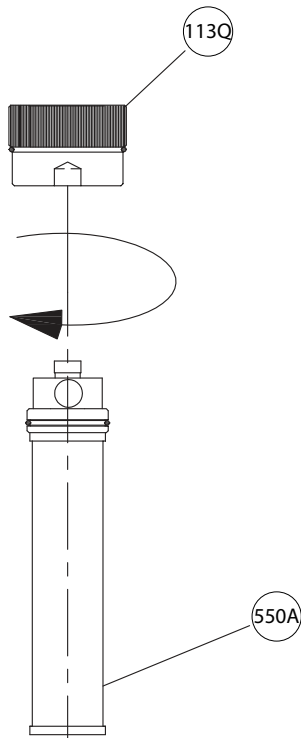

Figure 31: Filter removal
- 2. Unscrew the filter (550A), part number K08174A from the plug (113Q), part number K06818A. Keep the plug (113Q) and discard the old filter (550A). Please discard the oil filter per your local waste disposal requirements, See Figure 31: Filter removal on page 55.